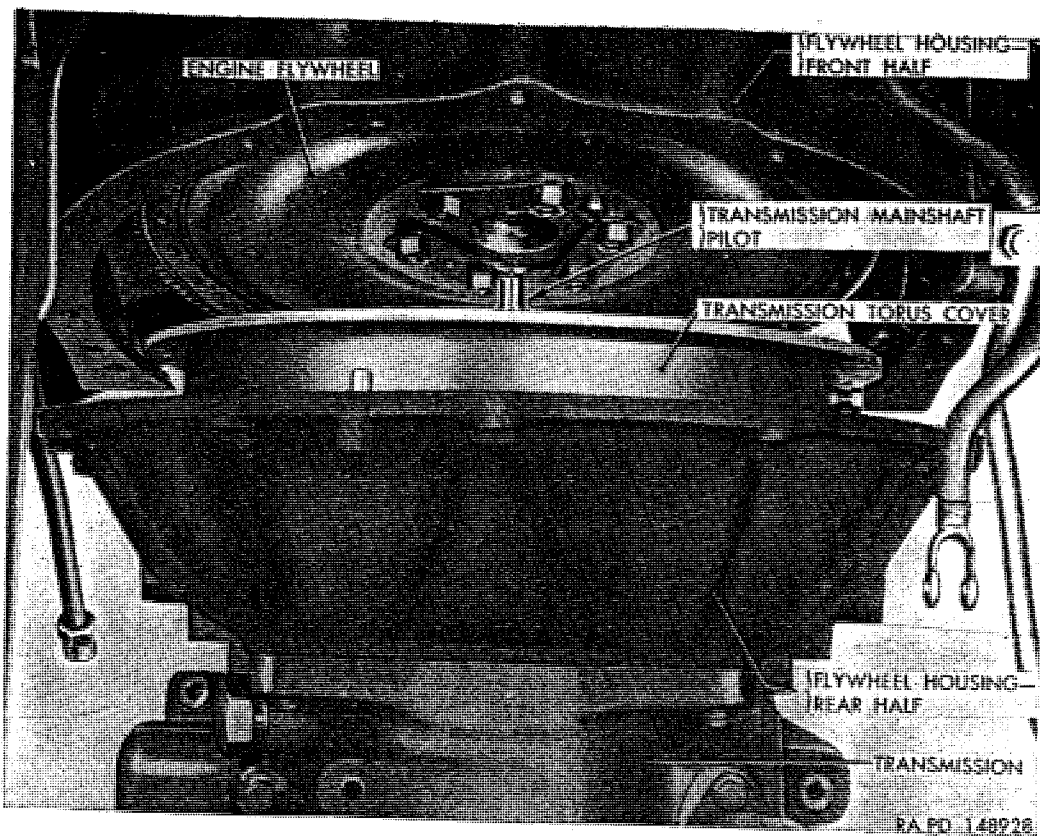

Figure 207. Removing transmission from engine.
- (3) Remove transmission from vehicle. Carefully move transmission away from engine a short distance for clearance as shown in figure 207; then lower jack with transmission to floor. Remove transmission from beneath vehicle; then using lifting eye-bolts A266327 (fig. 76) in holes in top of transmission and reduction unit, lift transmission and position on work bench or suitable repair stand. Remove pilot bearing spacer from end of transmission input shaft.
transmission (fig. 207) so input shaft pilot is aligned with pilot bearing in crankshaft, and holes in flywheel housing rear half are aligned with guide studs.